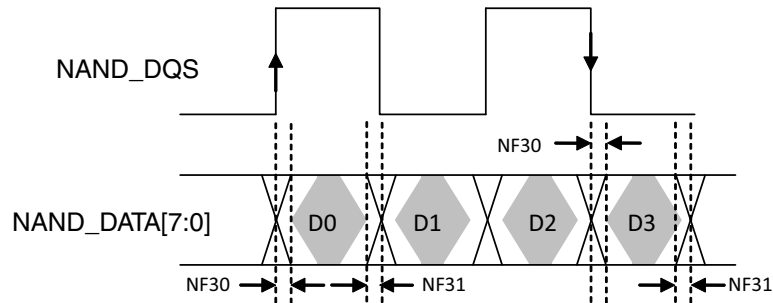

Figure 33. NAND_DQS/NAND_DQ Read Valid Window
For DDR Source sync mode, Figure 33 shows the timing diagram of NAND_DQS/NAND_DATAxx read valid window. The typical value of tDQSS is 0.85ns (max) and 1ns (max) for tQHS at 200MB/s. GPMI will sample NAND_DATA[7:0] at both rising and falling edge of a delayed NAND_DQS signal, which can be provided by an internal DPLL. The delay value can be controlled by GPMI register GPMI_READ_DDR_DLL_CTRL.SLV_DLY_TARGET (see the GPMI chapter of the i.MX 6Solo/6DualLite reference manual). Generally, the typical delay value of this register is equal to 0x7 which means 1/4 clock cycle delay expected. But if the board delay is big enough and cannot be ignored, the delay value should be made larger to compensate the board delay.
- ⁷ Shown in Figure 33, NAND_DQS/NAND_DQ Read Valid Window.
For DDR Toggle mode, Figure 33 shows the timing diagram of NAND_DQS/NAND_DATA_{xx} read valid window. The typical value of tDQSQ is 1.4 ns (max) and 1.4 ns (max) for tQHS at 133 MB/s. GPMI will sample NAND_DATA[7:0] at both rising and falling edge of an delayed NAND_DQS signal, which is provided by an internal DPLL. The delay value of this register can be controlled by GPMI register GPMI_READ_DDR_DLL_CTRL.SLV_DLY_TARGET (see the GPMI chapter of the i.MX 6Solo/6DualLite reference manual). Generally, the typical delay value is equal to 0x7 which means 1/4 clock cycle delay expected. But if the board delay is big enough and cannot be ignored, the delay value should be made larger to compensate the board delay.